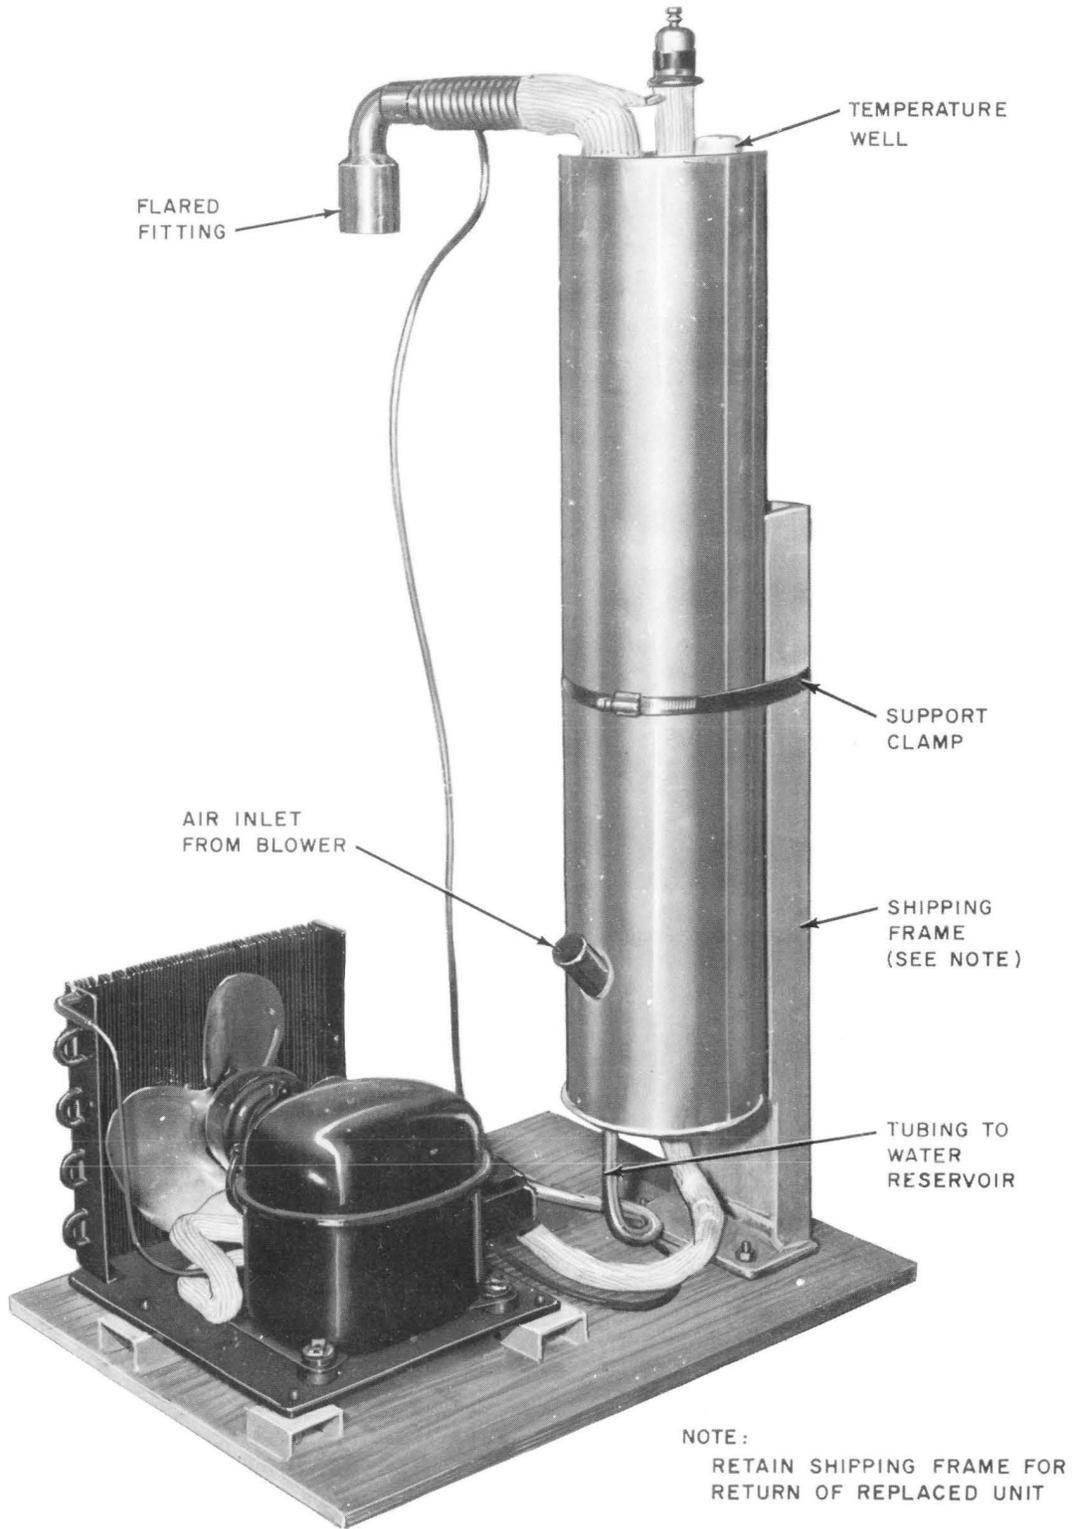

Fig. 12—D19610-501 Refrigerator and Evaporator Assembly
**3.03** Replacement of the entire refrigeration system can be made by field personnel with the D19610-501 refrigerator and evaporator assembly (Fig. 12).